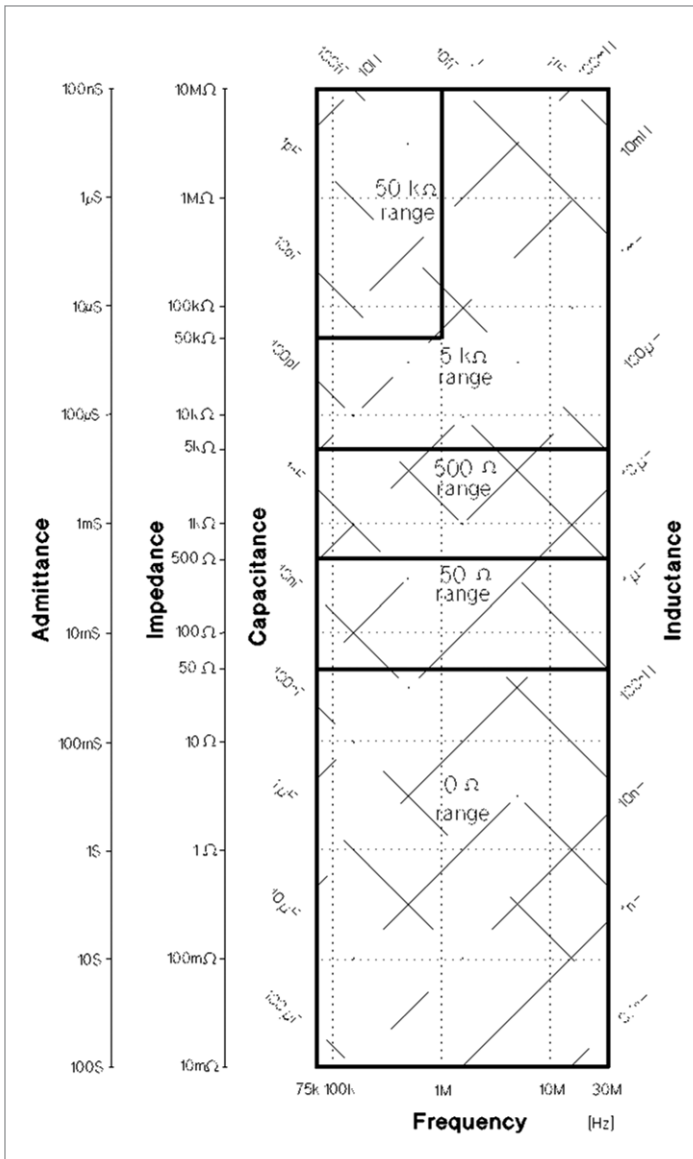
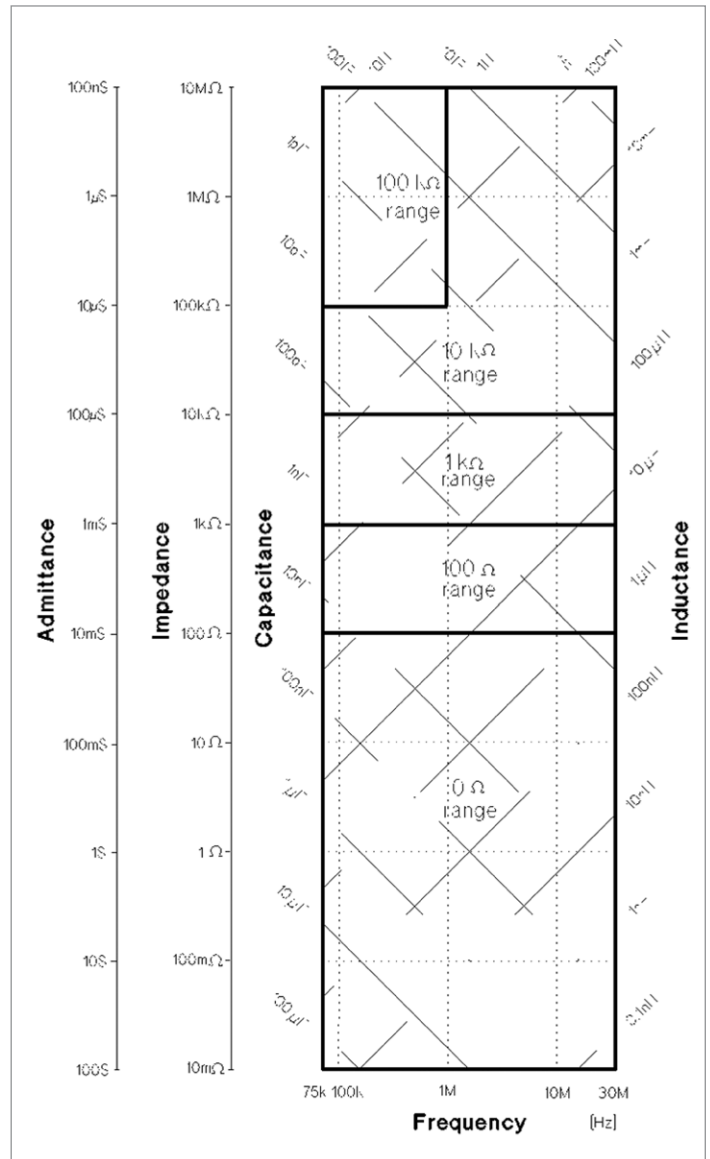

Figure 1-1. Effective measurement range (oscillator level $\leq 1 V_{rms}$)
Figure 1-2. Effective measurement range (oscillator level $> 1 V_{rms}$)
- The optimum measurement range is selected by matching the DUT's impedance to the effective measuring range shown in Figure 1-1 and Figure 1-2. (For example, if the DUT's impedance is 3 k Ω and oscillator level is less than or equal to 1 V, the optimum range is the 500 Ω range.)